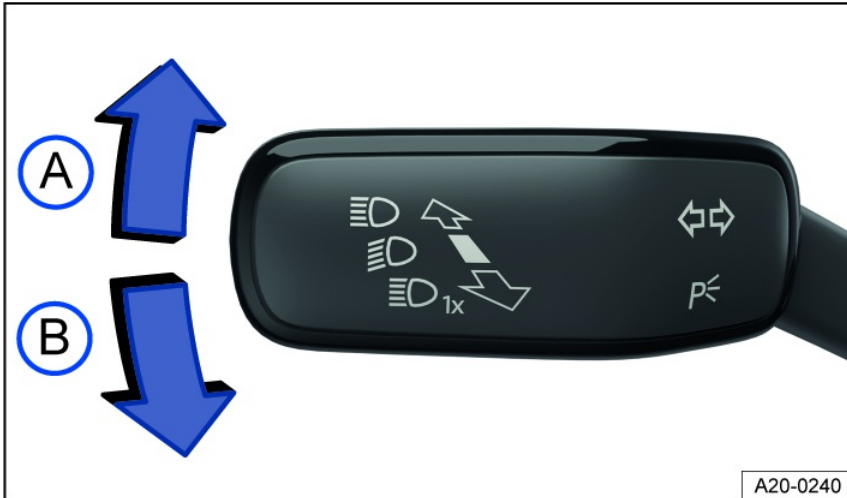

Fig. 72 On the left side of the steering column: turn signal and high beam lever.
2. Move the turn signal and high beam lever from the center position to the preferred position fig. 72.